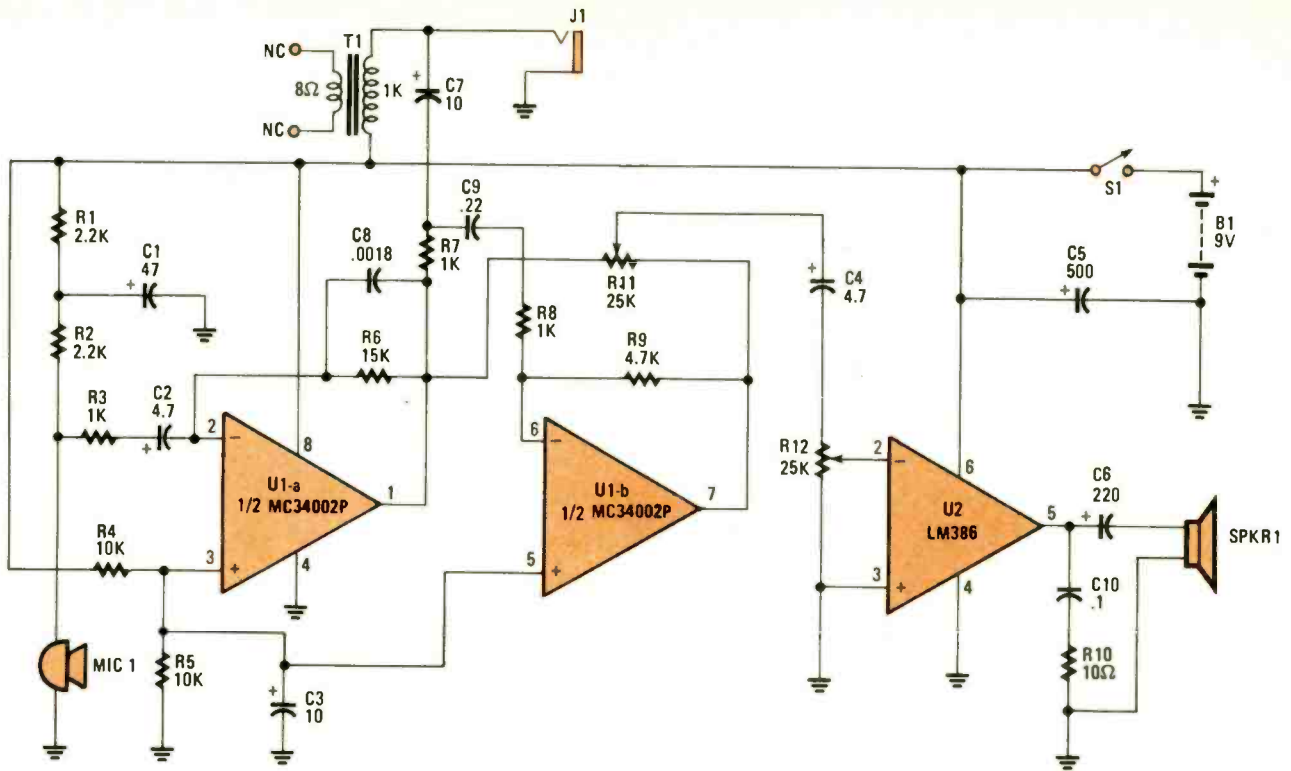

Fig. 2—Op-amps U1-a and U1-b perform the amplifying and inverting functions while the power amp, U2, boosts the signal to listening level.
**Only Two Wires?** The secret that allows the intercom to use a single wire pair to carry both DC power and audio is in the use of an audio transformer, T1 (see the schematic diagram in Fig. 2). The DC resistance of the transformer winding is about 30 ohms, which allows DC power to pass from one intercom to the other with very little loss.